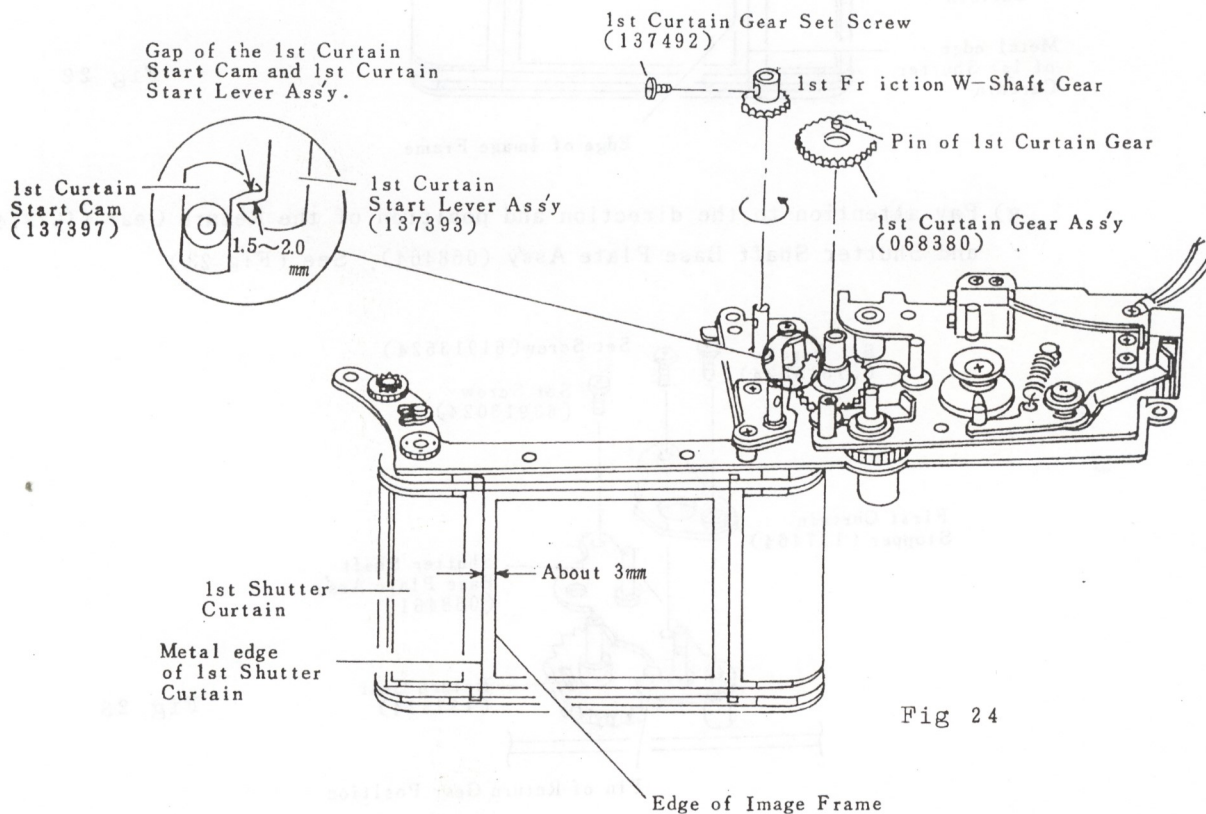

Fig 24
- a) By turning the 1st Shutter Curtain Shaft with a screwdriver (Counter-clockwise) in the direction of the arrow, then make sure the metal edge of the 1st Shutter Curtain is in position when installing the Friction W-Shaft Gear (selection Gear) and 1st Curtain Gear Set Screw (137492) to the correct position and direction as shown in (Fig 24).
- b) Install to the 1st Curtain Gear Assy (068380) to the correct position and direction as shown in (Fig 24).